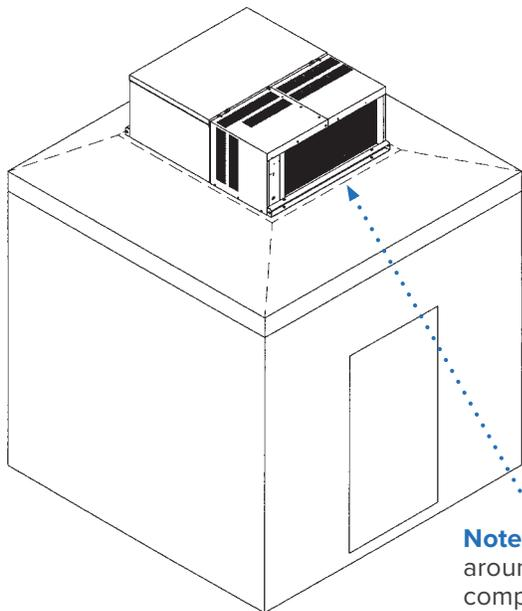

Figure 3. Outdoor unit placed on roof of walk-in cooler. (see rigging instructions).
- 5. Place PRO³ system onto curbing and center over opening in roof box. (See Figure 3, page 7)